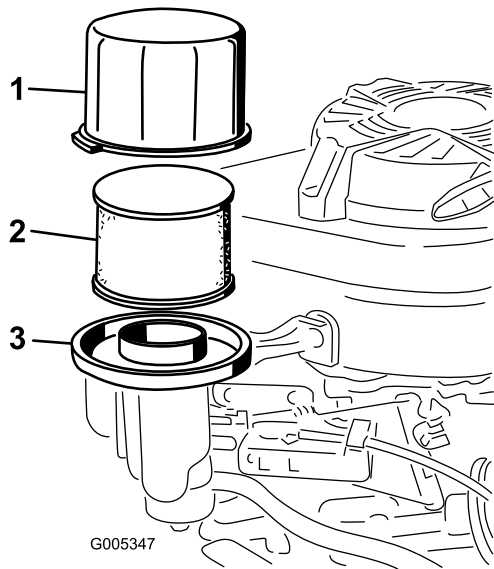

Figure 20
3. Remove the cover and clean it thoroughly (Figure 20).
4. Remove the foam pre-filter and the paper-air filter from the air-filter base (Figure 20).